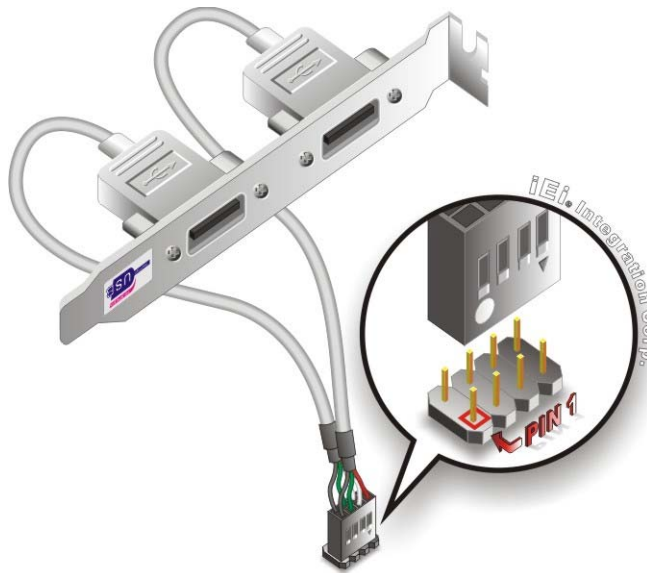

Figure 4-19: Dual USB Cable Connection
Step 3: Insert the cable connectors. Once the cable connectors are properly aligned with the USB connectors on the WAFER-945GSE, connect the cable connectors to the on-board connectors. See **Figure 4-19**.